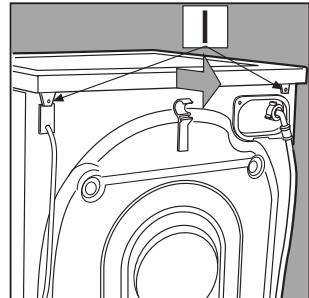

Fig. 3
- 2.** Remove the covering lid by unscrewing the two screws **I**, and then pull it towards you [fig. 3].